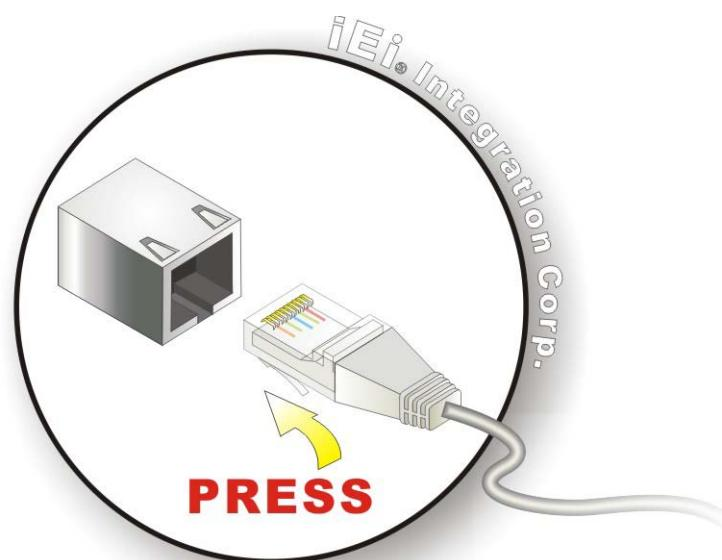

Figure 3-11: LAN Connection
Step 2: Align the connectors. Align the RJ-45 connector on the LAN cable with one of the RJ-45 connectors on the TANK-870-Q170 Series. See **Figure 3-11**.